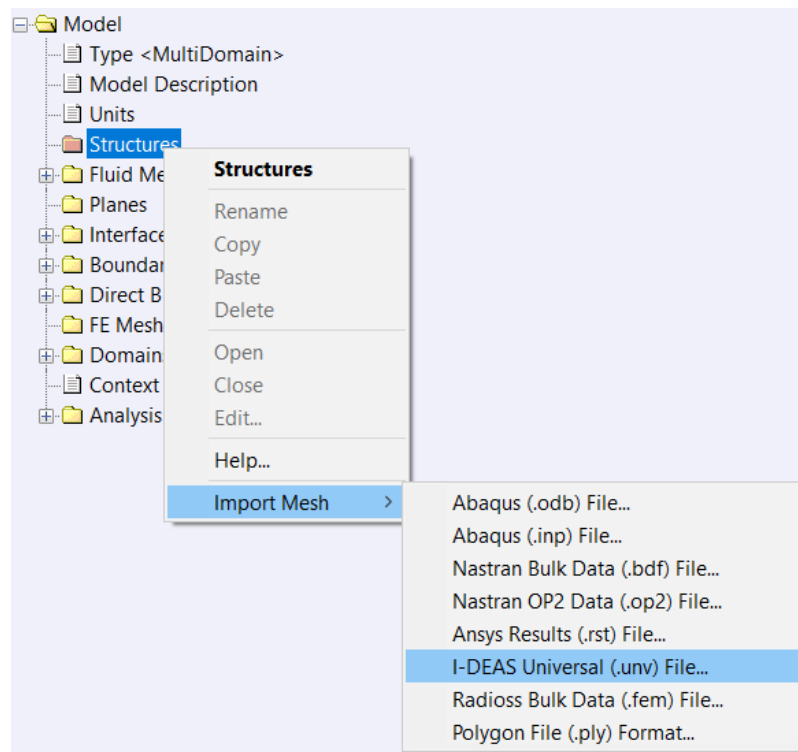

Figure 5.1 Importing a finite element structure mesh.
- To import FE mesh: Right-click on **Structures** and select **Import** → **Nastran Bulk Data (.bdf) File** (see Figure 5.1) to import mesh from Nastran bulk data format. The FE meshes from other data formats
Right-click on **Model** → **Structures** and select any of the file format options from **Import** (refer to Figure 5.1). *Coustyx* has the capability to import FE meshes from the following data formats.